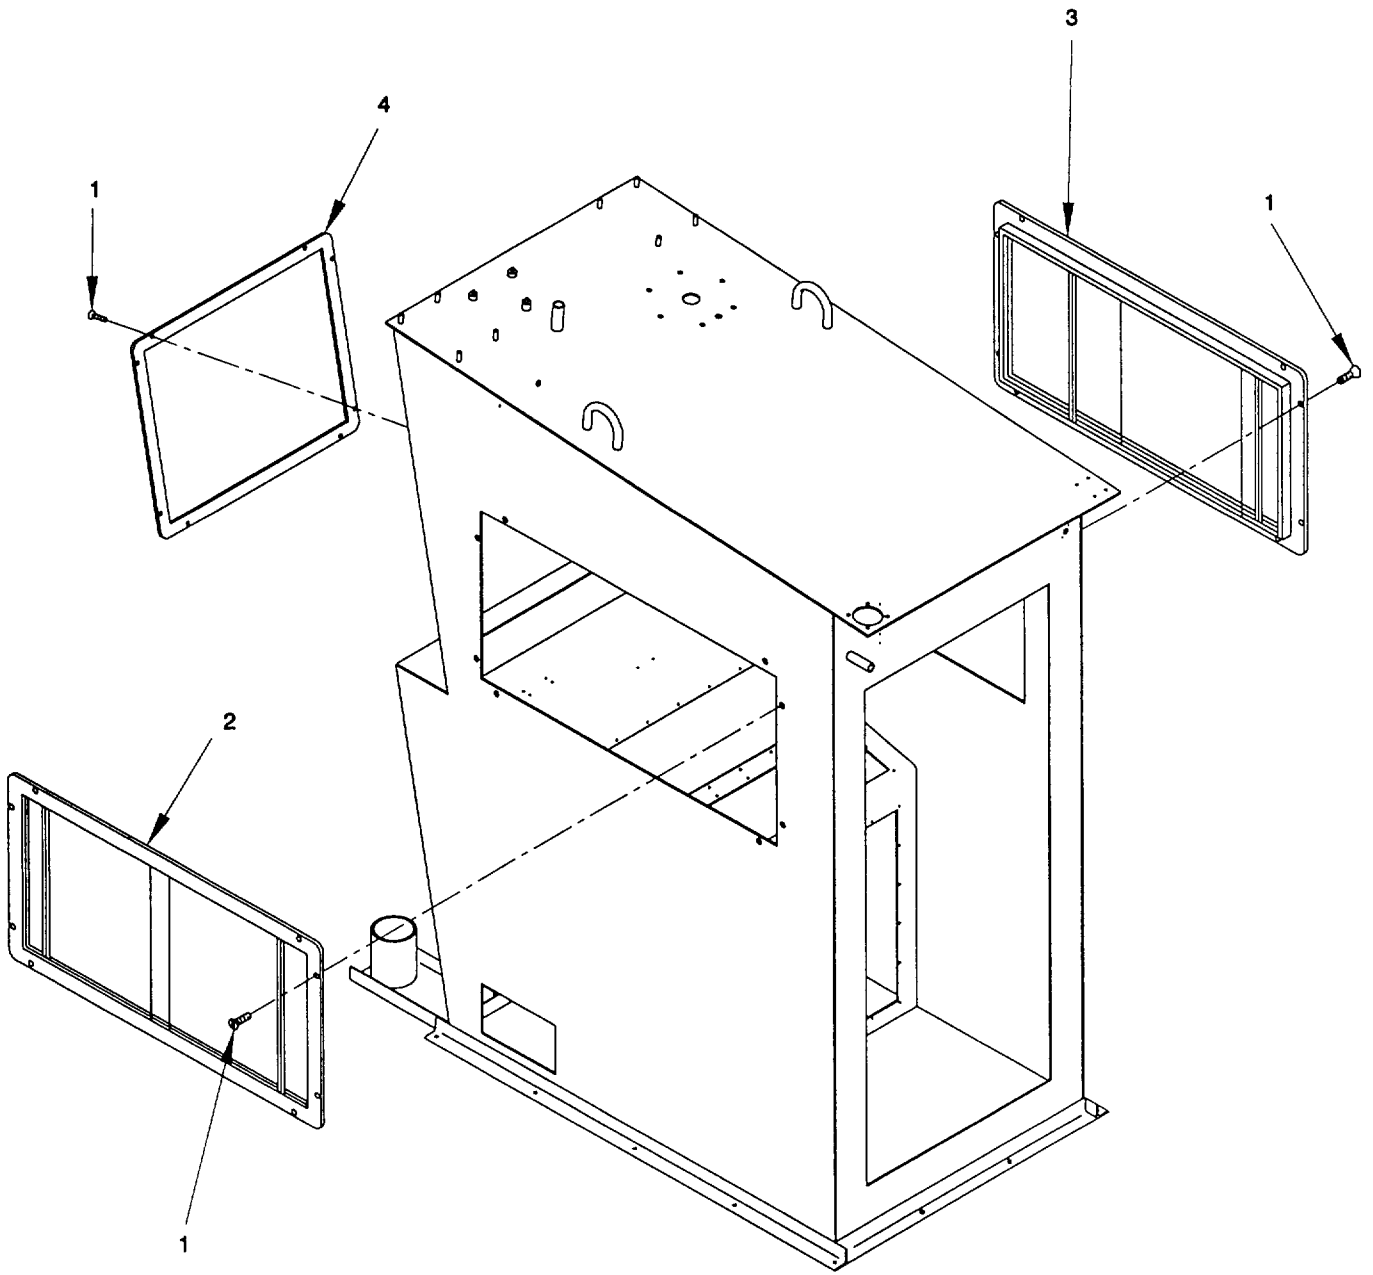

Figure 2-113. Window, Remove/Install.
a. *Remove.* (figure 2-113)
b. *Install.* (figure 2-113)
- (1) Apply a sufficient bead of sealant around the entire window frame to achieve a continuous water tight seal.
- (2) Position slide window P-1 (2), slide window S-1 (3) or fixed window (4) in window frame. Secure each window (2, 3 and 4) with eight flat head screws (1).